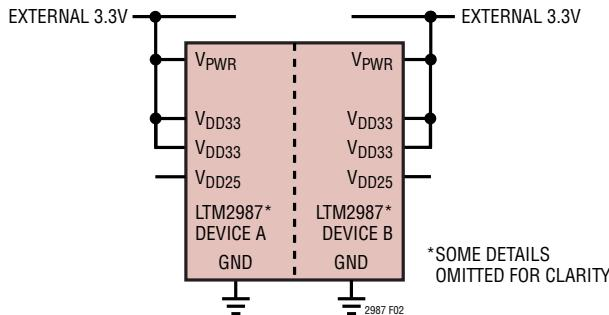

Figure 2. Powering LTM2987 from External 3.3V Supply
Alternatively, power from an external 3.3V supply may be applied directly to the V_DD33 pins using a voltage between 3.13V and 3.47V. Tie V_PWR to the V_DD33 pins. See Figure 2. In this case, VDD33(A) and VDD33(B) may be tied together. All functionality is available when using this alternate power method. The higher voltages needed for the V_OUT_EN[0:3] pins and bias for the V_SENSE pins are charge pumped from V_DD33.